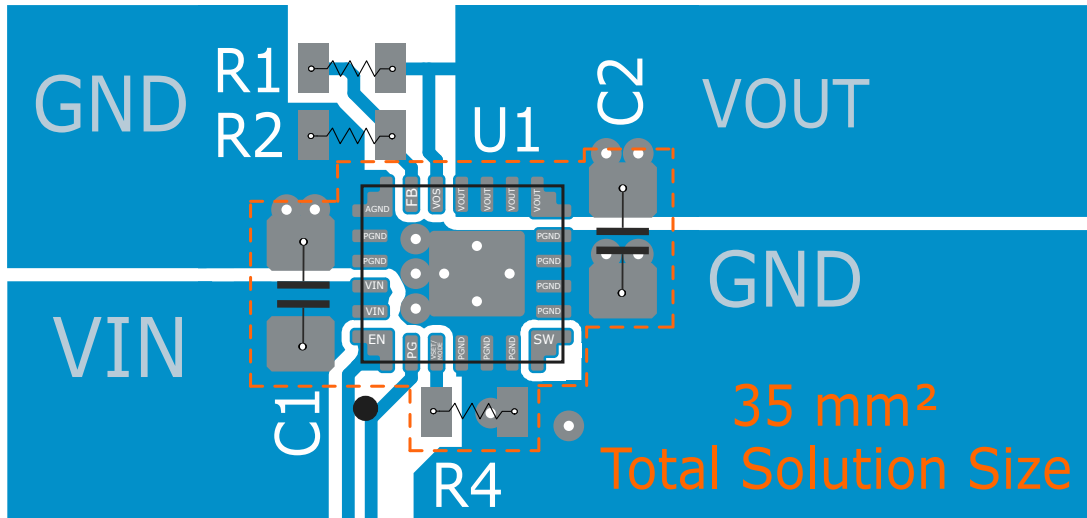

图 9-34. Layout Example
- Refer to 图 9-34 for an example of component placement, routing, and thermal design.